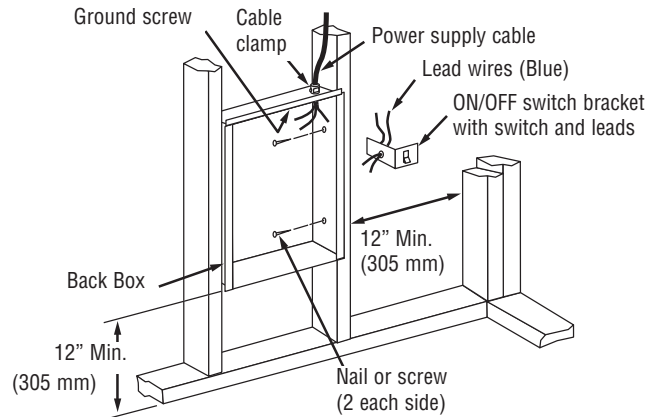

Figure 1 - Locating Back Box in New Construction
3. Secure the back box in position with wood screws or nails as shown in Figure 1.
4. Run a power supply cable into the knockout area in the upper right hand corner of the back box (see Figure 1). All wiring must be in accordance with National and Local Electrical Codes. Refer to Specifications for correct wire size.